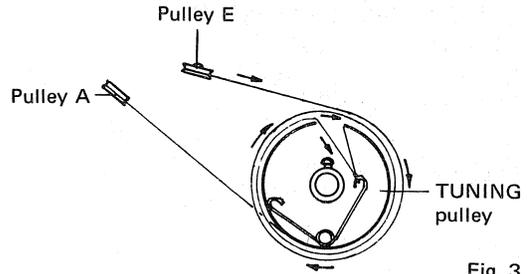

Fig. 3
3. Put the thread on pulley E, then wind it around the TUNING pulley twice, and knot it to the spring, as shown in Fig. 3.